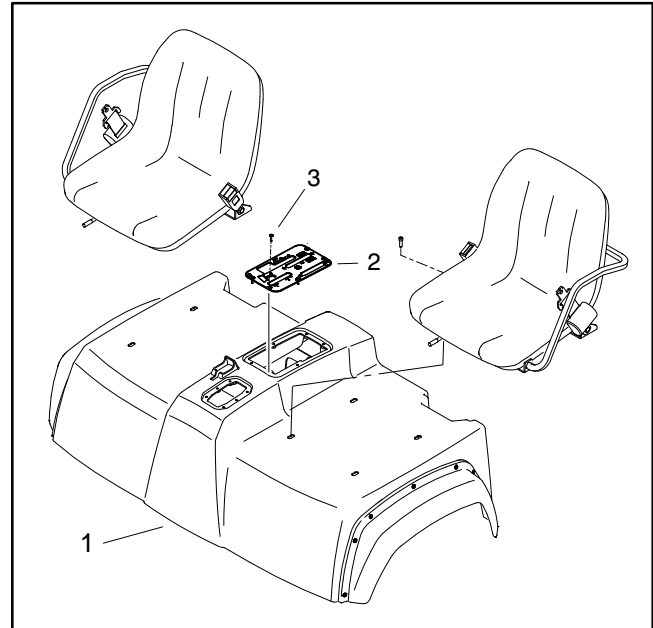

Figure 16
2. Remove knobs from control levers, then remove control plate assembly from seat base (Fig. 16).